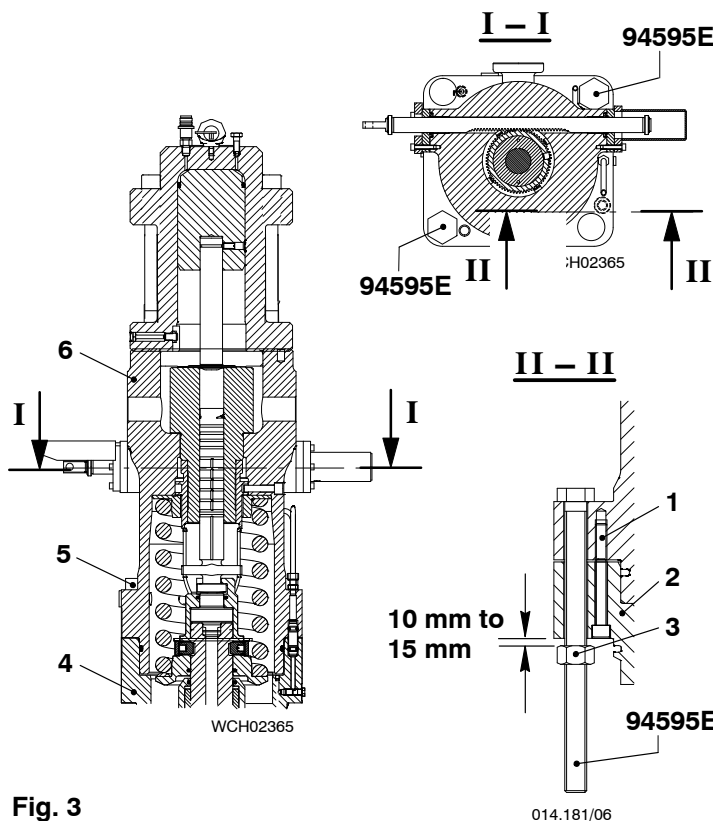
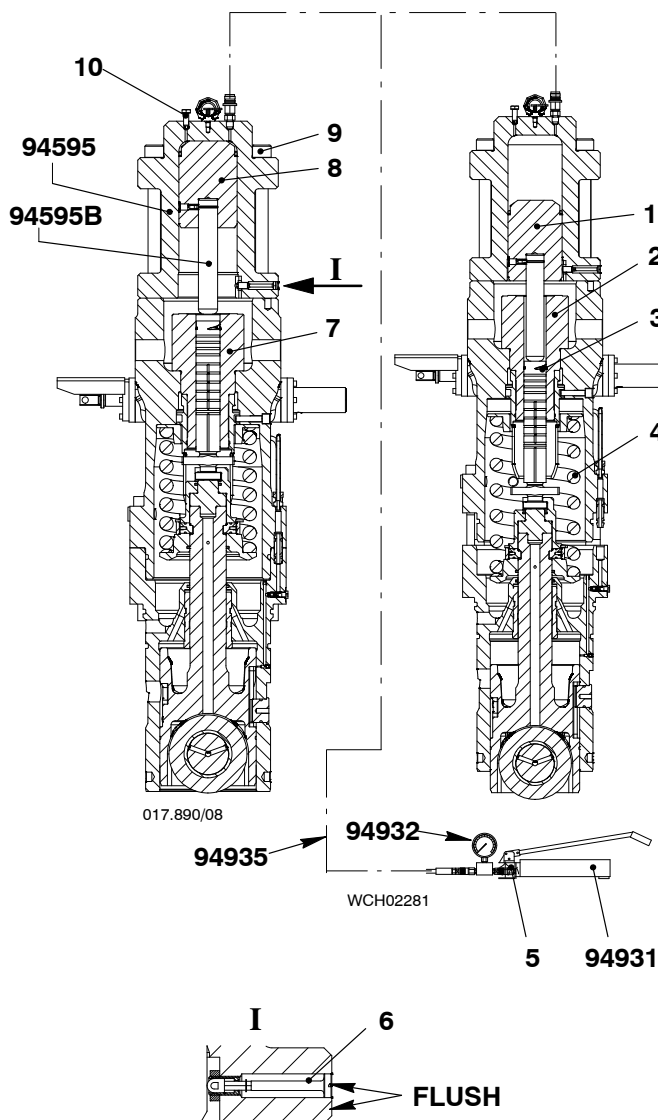

Fig. 3
Fig. 4
- 1) Attach the hydraulic ram (94595) to the fuel pump with the twelve screws (1).
- 2) Hold the bottom housing (4, Fig. 3) in position, then remove the four bolts (5) from the top housing (6).
- 4) Put the nuts (3) on the screws (94595E).
- 5) Adjust the nuts (3) to get a minimum clearance of between 10 mm to 15 mm (view II-II).
- 6) Remove the two screws (1).
- 1) Connect the hydraulic ram (94595, Fig. 4) to the HP oil pump (94931).
- 2) Close the relief valve (5).
- 3) Make sure that the vent screw (10) is open.
- 4) Operate the HP oil pump until oil that has no air flows from the vent screw (10).
- 5) Close the vent screw (10).
**Note:** During the step below, make sure that you keep a clearance of between 10 mm and 15 mm between the nuts (3, Fig. 3 II-II) and the bottom housing (4).
- 6) Operate slowly the HP oil pump (94931, Fig. 4) until:
- The compression spring (4) pushes the plunger (2) out of the cylinder (7), or
- The indicator (6) is flush with the housing. (This shows that the piston is at the end of its stroke.)
- 7) Open the relief valve (5) to release the pressure in the HP oil pipe (94935).
- 9) Remove the screws (9).
- 11) Remove the plunger (3).
- 12) Move the piston (8) to the initial position, refer to paragraph 2.
- 14) If you cannot remove the plunger (2), do the procedure given in paragraph 5.